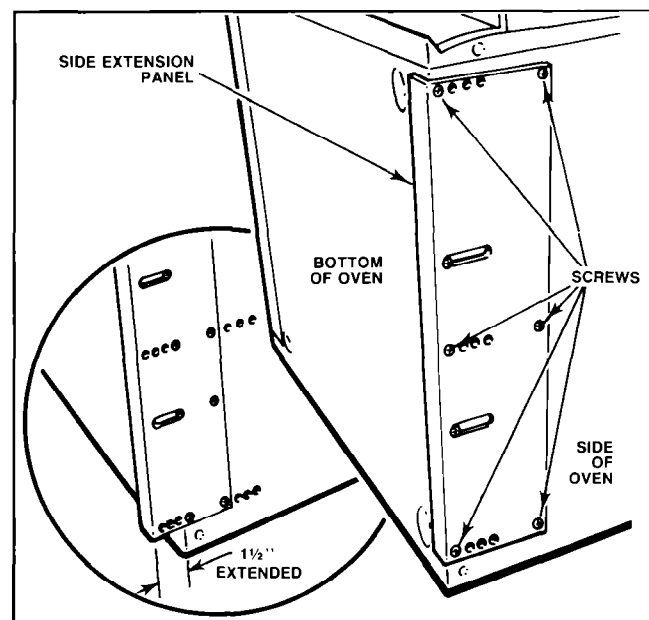

FIGURE 3
5. HEIGHT ADJUSTMENT ON OVEN (See Figure 3)